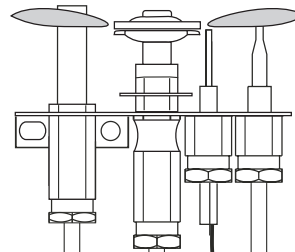

Figure 17. Pilot Burner.
2. Turn Adjustment Screw until flame is proper size. (See figure 17).